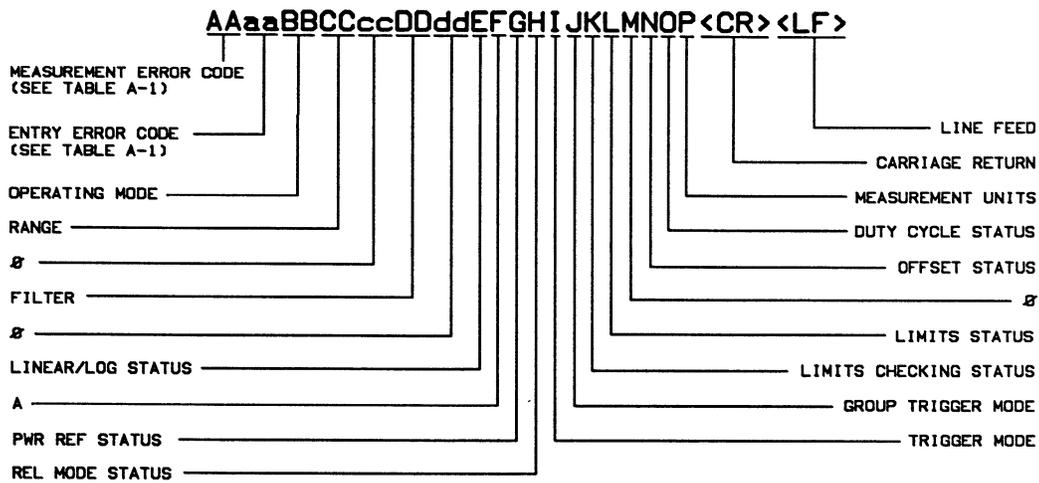

Figure 3-5. Status Message Format
Status Message. This function enables the power meter’s current state to be read under program control. After receiving an SM program code (Status Message) and when addressed to talk, the power meter sends a string of 26 ASCII characters followed by a carriage return (CR) and a line feed (LF). With the last byte of the string, the power meter sets the EOI line true. The Status Message is updated only after a measurement. The Status Message can be interpreted with the information shown in Figure 3-5 and Table 3-3.